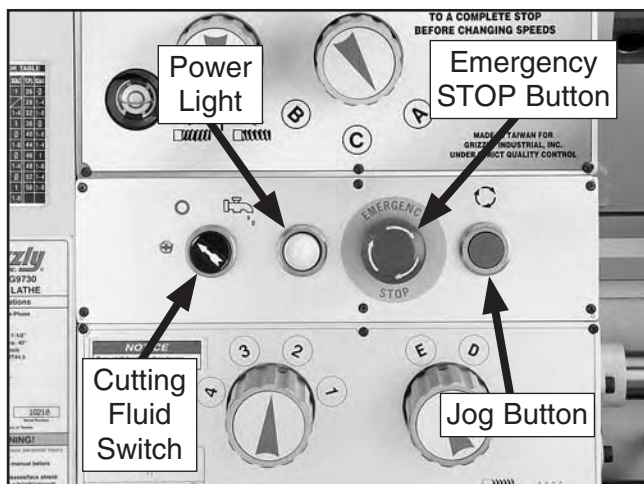

Figure 20. Control panel identification.
5. Make sure the cutting fluid switch (see **Figure 20**) is in the OFF position, then point the fluid nozzle down into the chip tray.